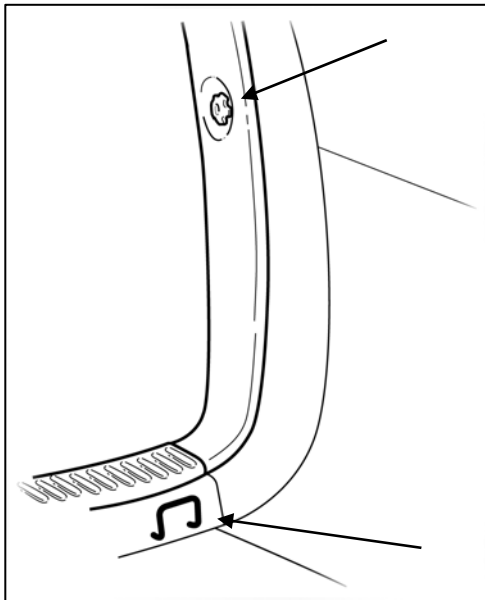

Fig. 1-1
- (a) Open the rear cargo door and locate the anchor points on the driver side of the vehicle. (Fig. 1-1)